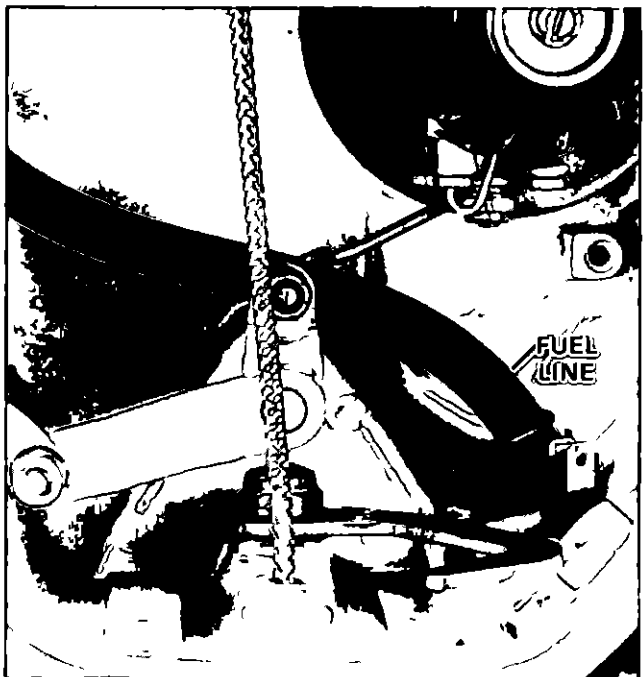

Figure 7. Disconnecting Fuel Line.
- 5 Disconnect fuel line from bushing as follows Figure 7